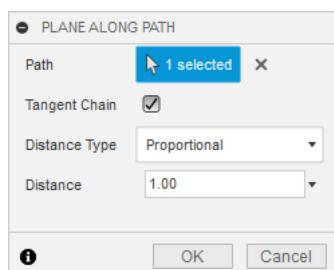

Fig. 7
Step 3. In the Plane Along Path panel set, Fig. 7